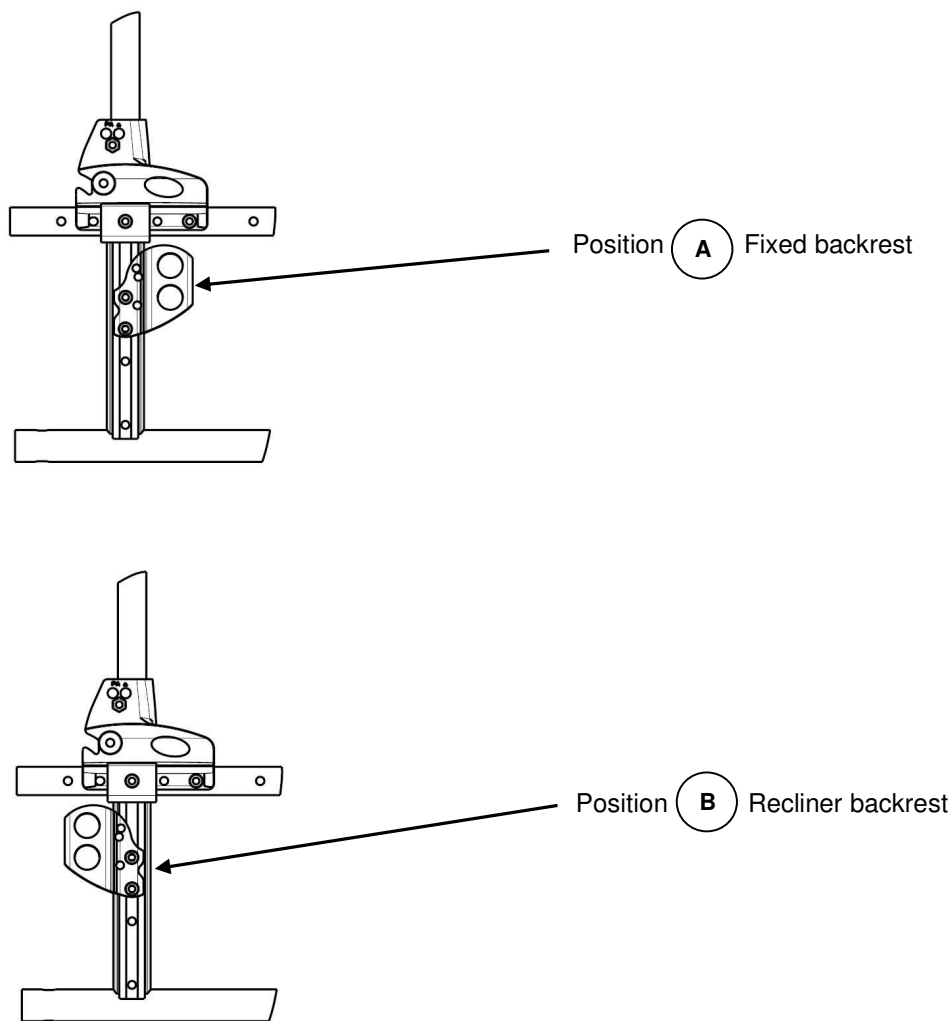

FIGURE 5.6 Possible Positions of Wheel Plate
3. Align the wheel plate with one of two adjustment holes. There are 2 positions possible: Factory setting for Fixed backrest is Standard position “A”, for Recliner backrest is Passive position “B”. Refer to detail “A” of FIGURE 5.6, next page.
The two mounting screws need to be two adjustment holes apart to maintain frame integrity. Respect factory settings related to backrest type (“A” for Fixed, “B” for Recliner), refer to detail “A” of FIGURE 5.6. and to seat depths (400 mm or 450 mm). Any change to one or any combination of the 2 positions may cause the wheelchair to increase/decrease in stability. Anti-tippers can be fitted to secure the stability if required. Refer to SECTION 9.